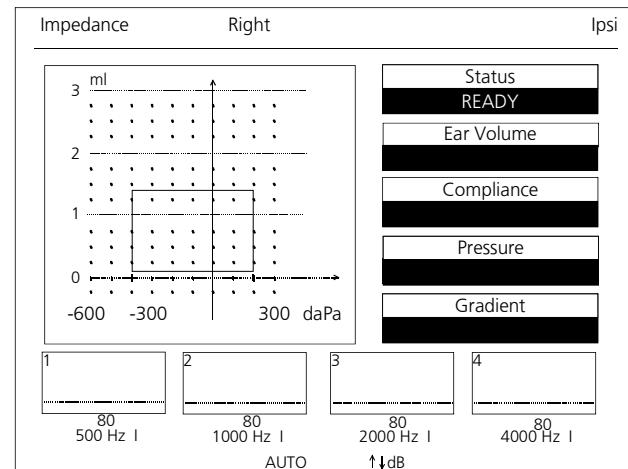

Figure 5 The measurement screen of the MI 34
In figure 5 the initial empty measurement screen is shown. The measurement screen shows actual settings, test results and the graphical display of the tympanogram and reflexes.
The top line shows from left to the right the type of test (in example figure 5 Impedance), the selected test ear left or right and the selected reflex test "ipsi", "contra" or "Tympanogram" if no reflex test is selected.
At the bottom line in figure 5 the word "AUTO" and $\uparrow\downarrow$ dB Scale is shown. It means that the reflex test level increases automatically until a reflex was
- test level (80 dB in example figure 5),
- ipsilateral testing (I).